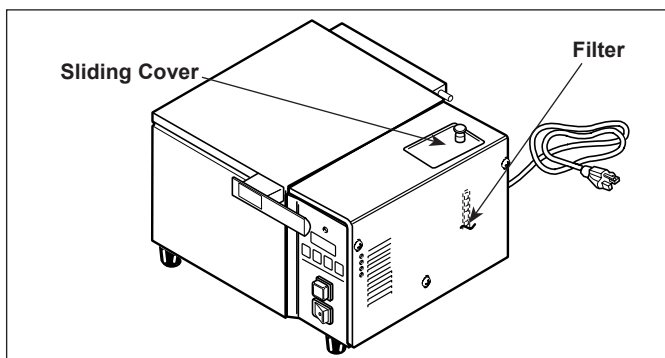

Figure 3. Filling Water Tank DFW/DFWT-100/150
1. Open the sliding tank cover on top of the unit (Figure 3).